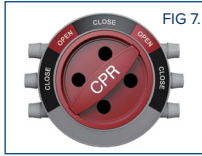

FIG 7.
- Rotate the CPR dial to the open position (FIG 7 overleaf), once done the entire system will rapidly deflate.